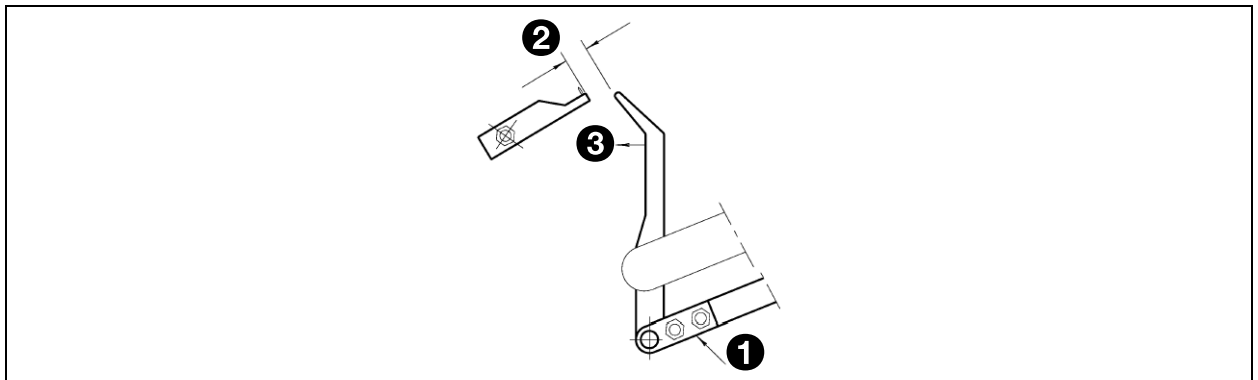

Fig. 197 - Adjustment of the forks
- 2 Use the pull-rod (1) to set the distance between the closing-flap-pusher and the needle-units to 18 mm (2). Increase the clearance (3) of the closing-flap-pusher in direction of the needle-units. See fig. 197.